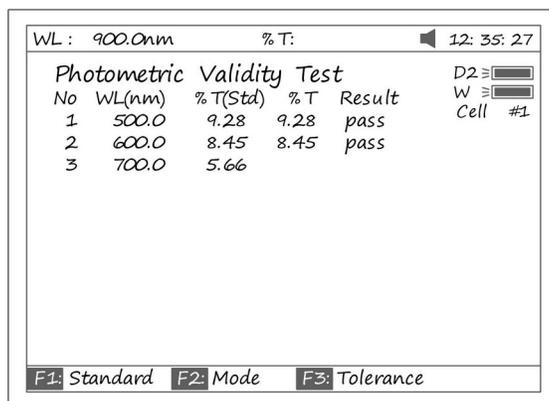

Fig 94
6. Put the sample (calibrated neutral density filter) into Light Path. Press [START] to check. The results will be displayed on the screen (Fig 94). If the discrepancy between the results and the calibrated standards is not more than the tolerance, “pass” will be displayed after the test result. Otherwise, “fail” will be displayed.